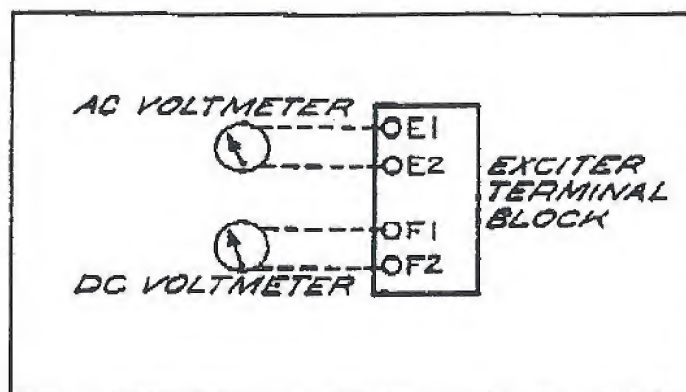

FIGURE 6. TEST SCHEMATIC
1. Connect an AC voltmeter to exciter terminals E1 and E2 as shown in Figure 6.